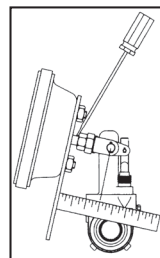

Figure 7 – Free Stroke
1. Free stroke is the amount of movement of the slack arm required to move the brake shoes against the drum. With brakes released, measure from the face of the chamber to the center of the clevis pin. See Figure 7. Apply pressure using a lever to activate the slack adjuster until the brake shoes make contact with the drum. The difference between the released and the applied measurements is the free stroke. The free stroke should be between 3/8" - 5/8".